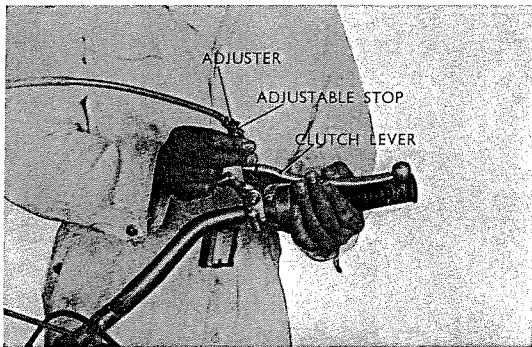

Fig. 4.6 Removing clutch, brake cable
8. For disassembling the clutch cable and brake cable from the handlebar, loosen the clutch cable adjuster and remove it from the handlebar lever. Also remove the cable from the handle lever. (Refer to Fig. 4.6)